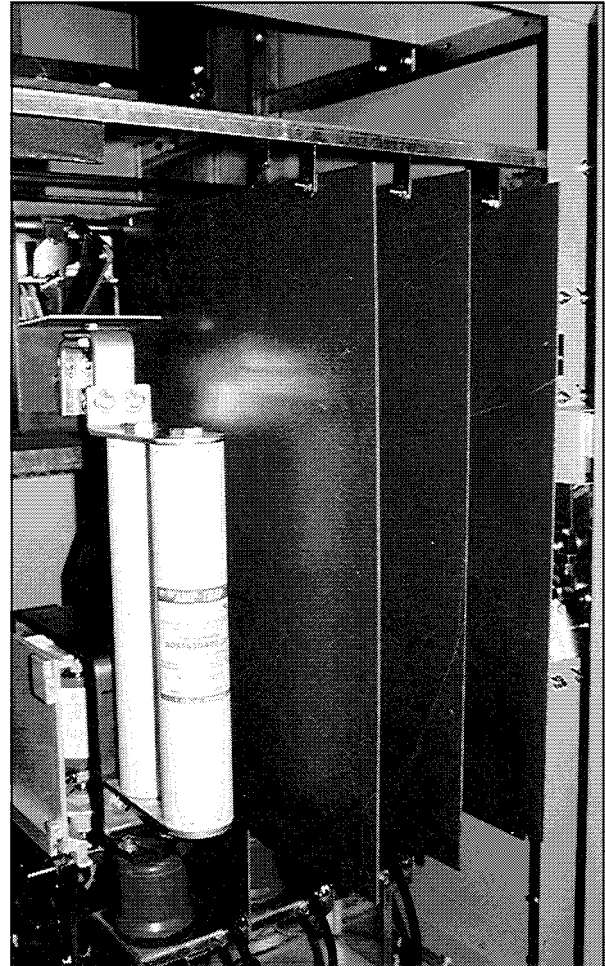

Fig. 45 Fuse Barrier Placement
- Check the fuse barriers for cleanliness and proper positioning as shown in Fig. 45. There are three vertical barriers, two located between adjacent fuses and a third between the right hand fuse and the operator mechanism. A fourth, angle shaped barrier, is positioned in front of the isolation switch.